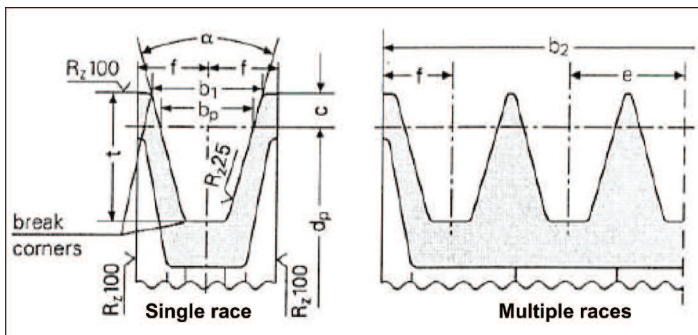

fig. 8
a) Use pulleys for v-belts with race dimensions prescribed/recommended by the belt Manufacturer. Should no indications be supplied, please see fig. 8 and the table in fig. 9.